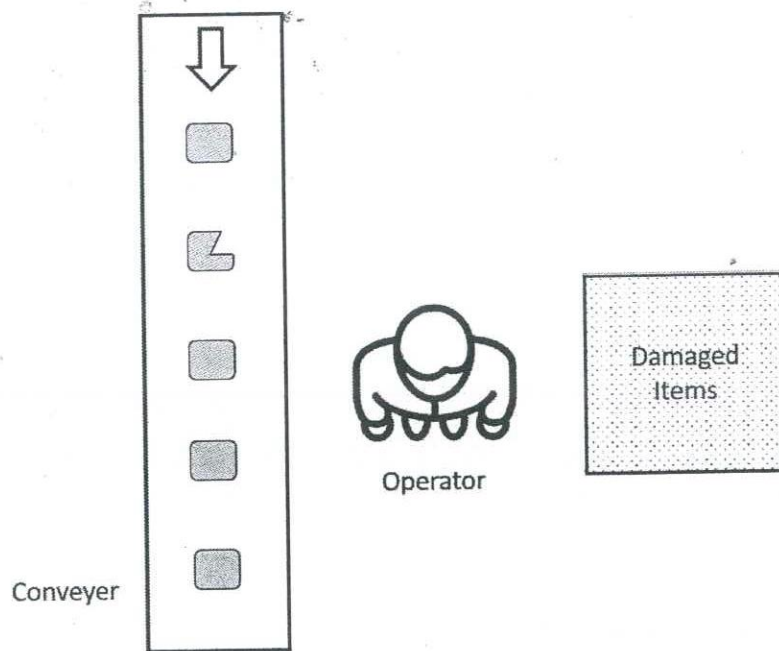

Figure Q1(c) - Layout of the defect item removal operation
- (c) Assume you are an automation engineer tasked with automating a defect item removal operation in a product assembly line using a robot manipulator to replace a human worker. The layout of the operation is shown in Figure Q1(c).